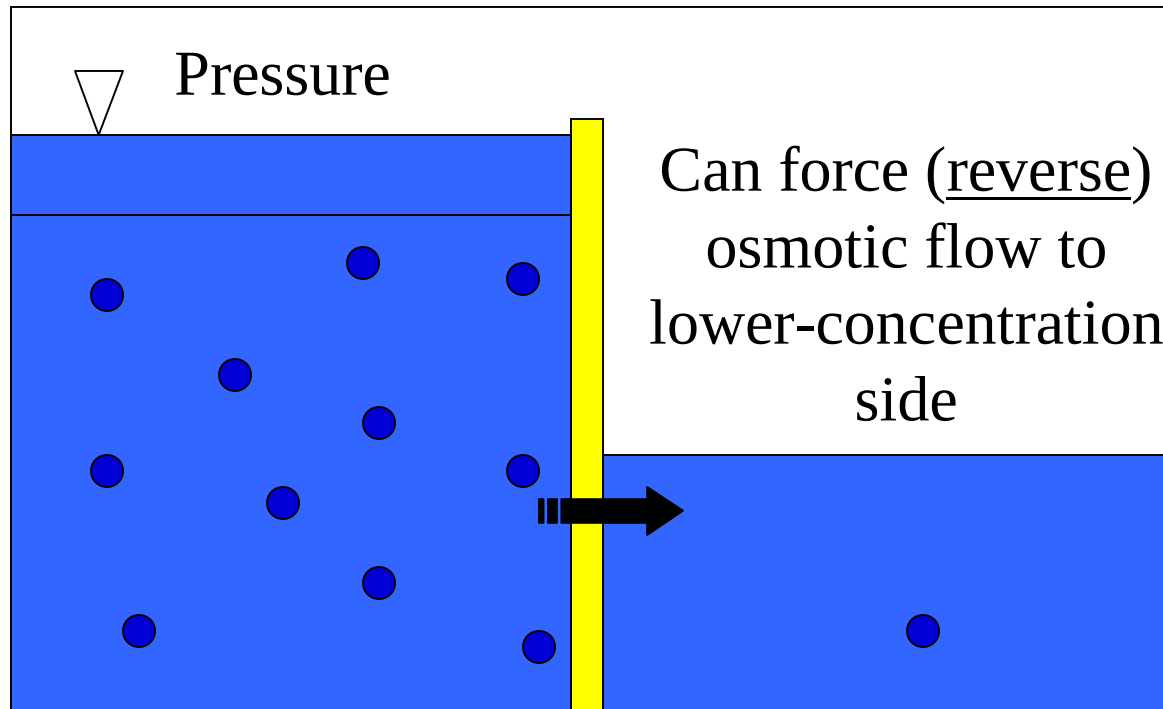

Fig. 5.3
B. Reverse Osmosis (RO):
- § Figures 5.3 and 5.4 illustrate the RO process .